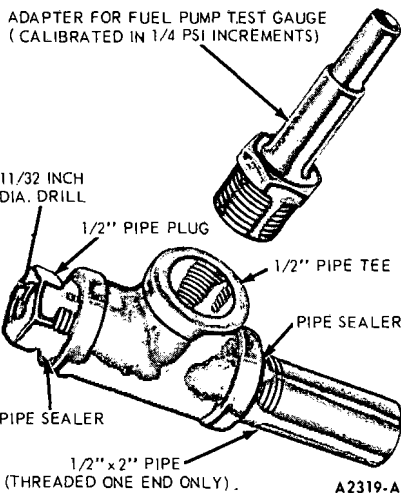

FIG. 9—Air Supply Pump Test Gauge Adapter
1. Assemble a test gauge adapter as shown in Fig. 9, and install a fuel pump test gauge on the adapter. The test gauge used must be accurate and readable in 1/4 psi increments.